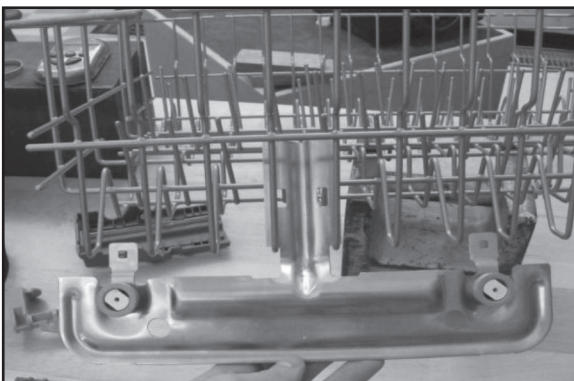

FIGURE 2
4. Once the vertical portion is between the tines, rotate the adjuster arm so that it lays parallel/flat to the side of the upper rack. See *Figure 2*.